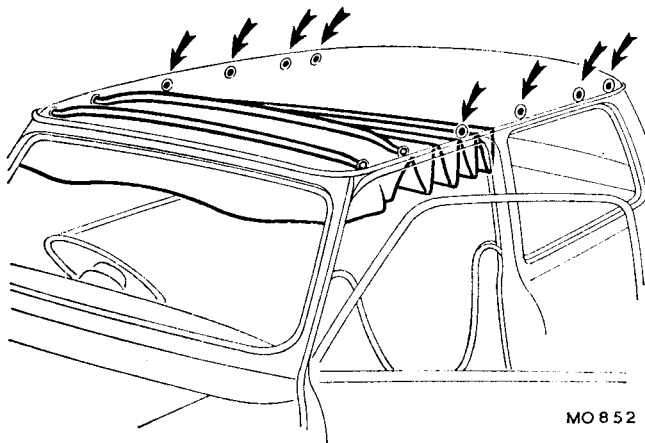

Fig. Rb.9
13. Start at the front and engage the liner support rails into the plastic locators in the roof cant rails (see Fig. Rb.9).